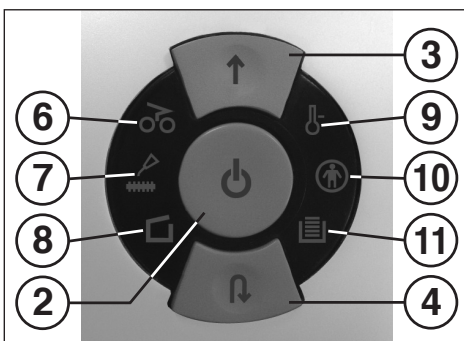

fig. 1
- 9 = Control display "Motor overload" (fig. 1)**
- 10 = Control display "User interlock activated" (fig. 1)**
- 11 = Control display "Receptacle full" (fig. 1)**